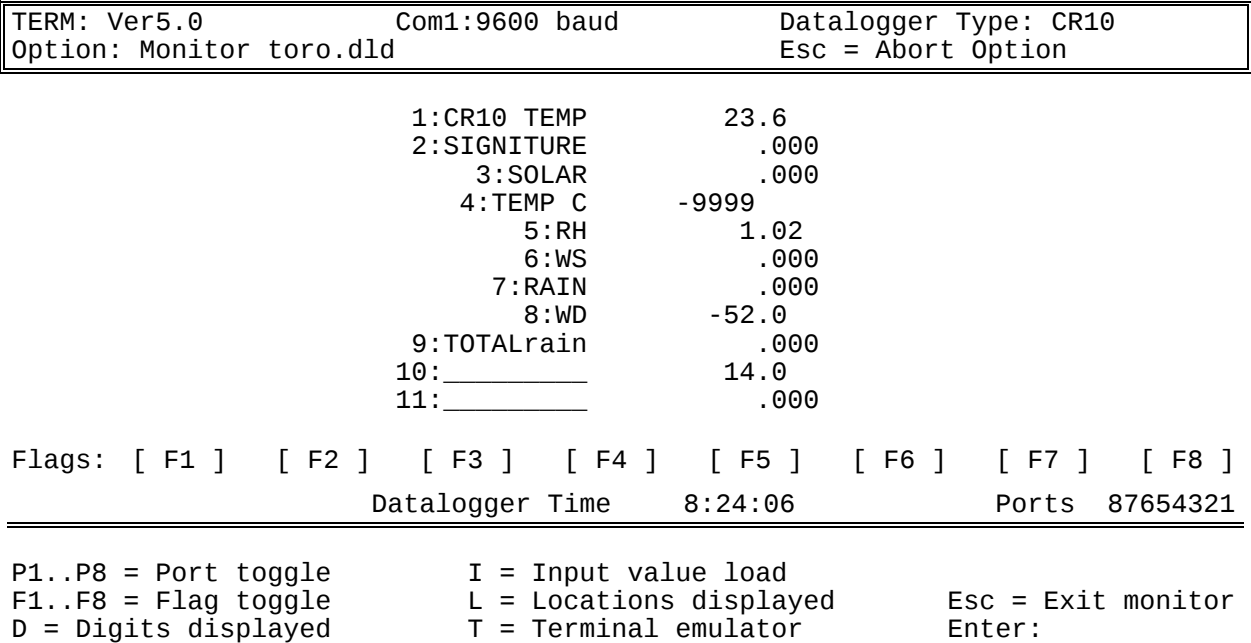

FIGURE 6-3. Term Monitor Window
- 10. Call the station by pressing <m>. The screen should momentarily change while TERM is attempting to call the station. If you don't get the screen as shown in Figure 6-3, or it takes longer than a couple of minutes to call the station, then there is something wrong with the communication line (See Section 6.6.2).
- 11. If you do get a window similar to Figure 6-3 then the communication line is fully functional. You should see a different datalogger time and the values in the input locations should be different. Check these values and make sure they look right. These values should change every 60 seconds and show present weather conditions.